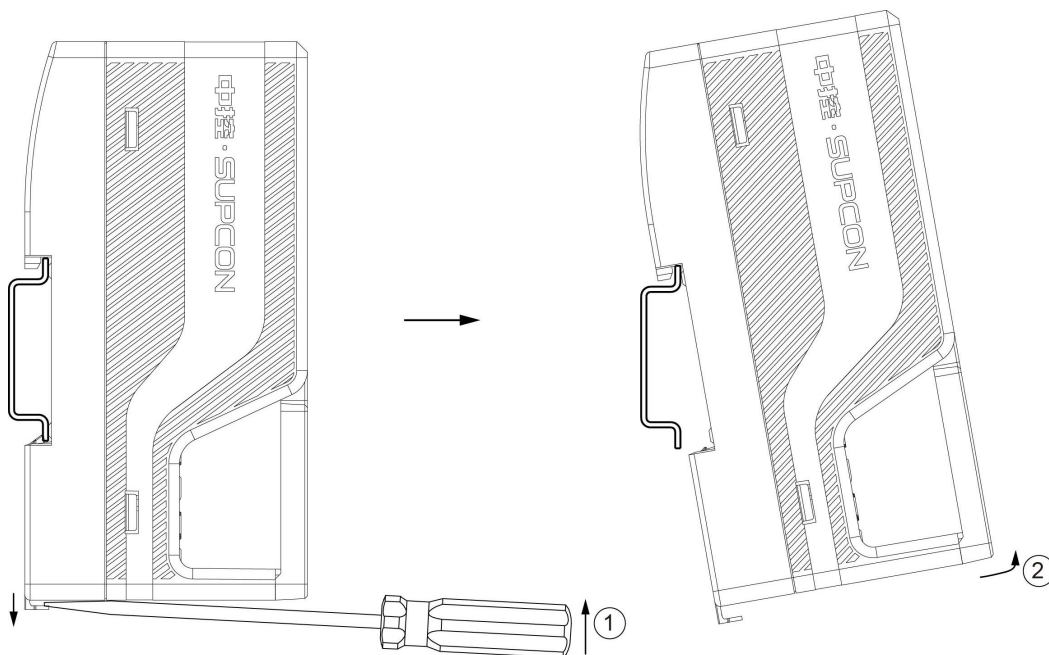

Figure 5-3 Disassemble the module
- 2) Pry open the active tab with the slotted screwdriver (medium or small size), as ① shows in Figure 5-3.
- 3) Rotate the module, as ② shows in Figure 5-3.